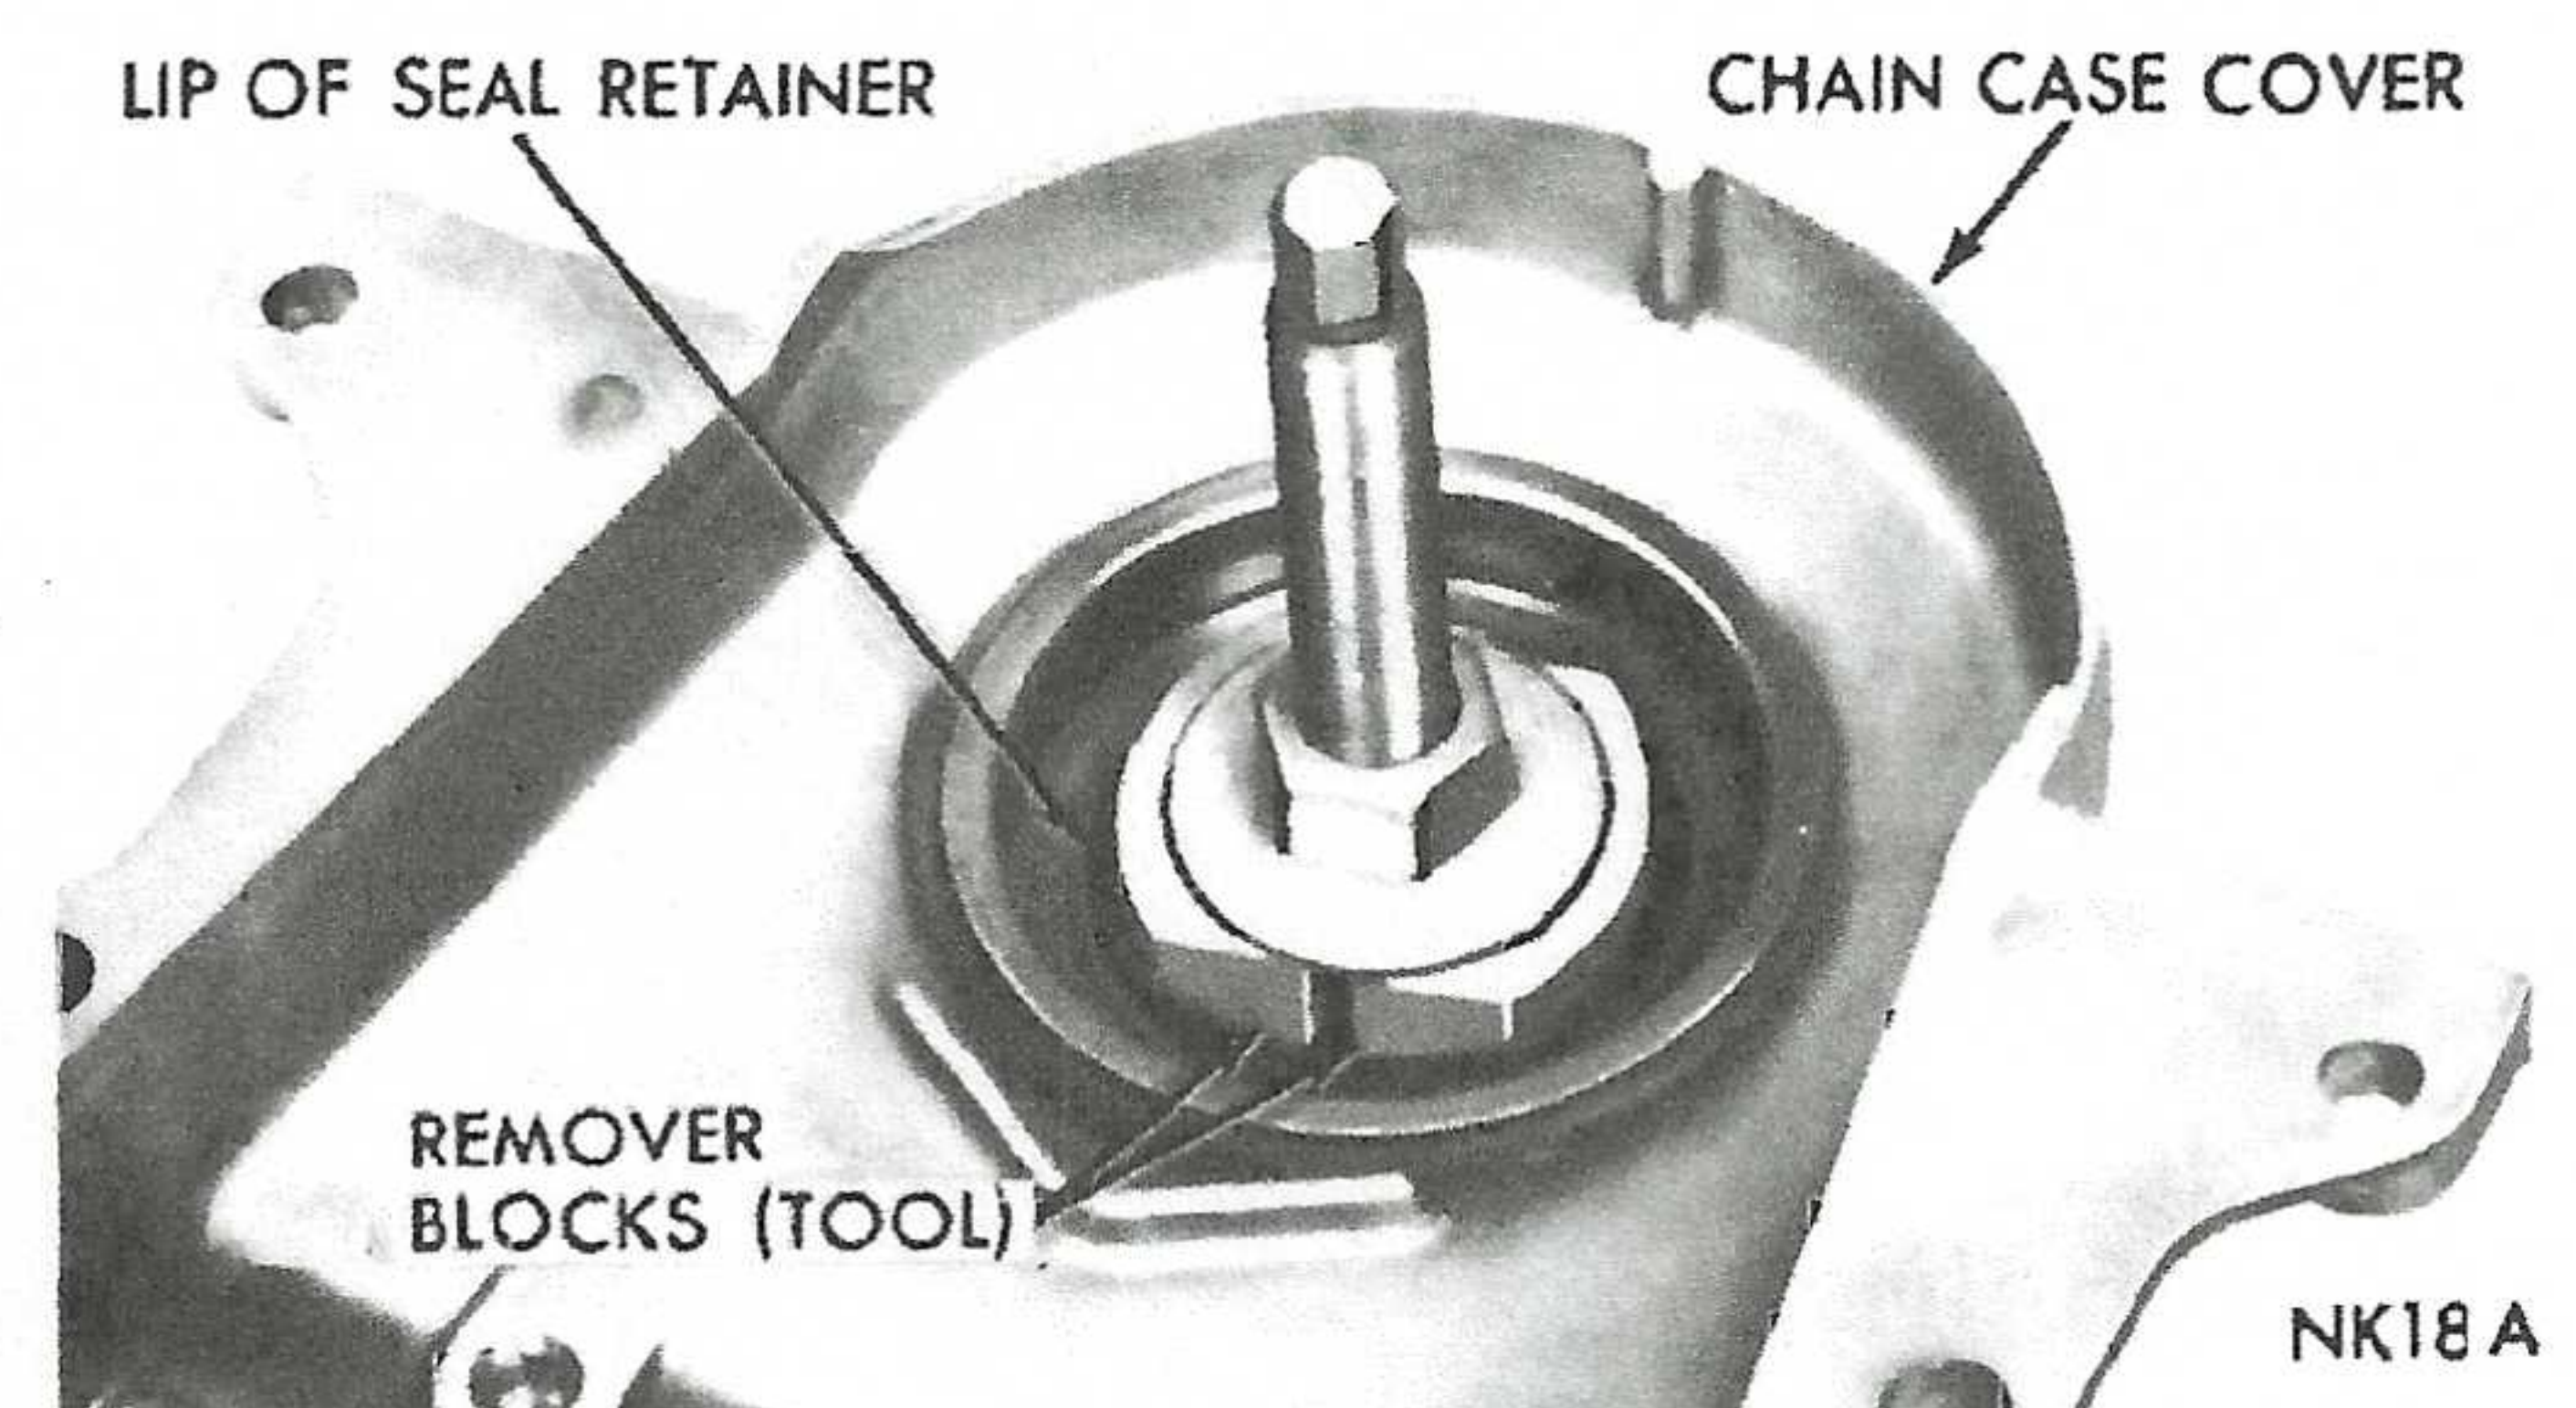

Fig. 27—Remover Blocks Expanded to Puller Position
(1) Position remover screw of Tool C-3506 through case cover with inside of case cover up. Position puller blocks directly opposite each other, and force the angular lip between the neoprene and flange of the seal retainer.
(2) Place washer and nut on remover screw. Tighten nut as tight as possible by hand, forcing the blocks into the gap to a point of distorting the seal retainer lip, (Fig. 27). This is important, **remover is only positioned at this point.**
(3) Place sleeve over the retainer and place removing and installing plate into sleeve.
(4) Place flat washer and nut on remover screw.